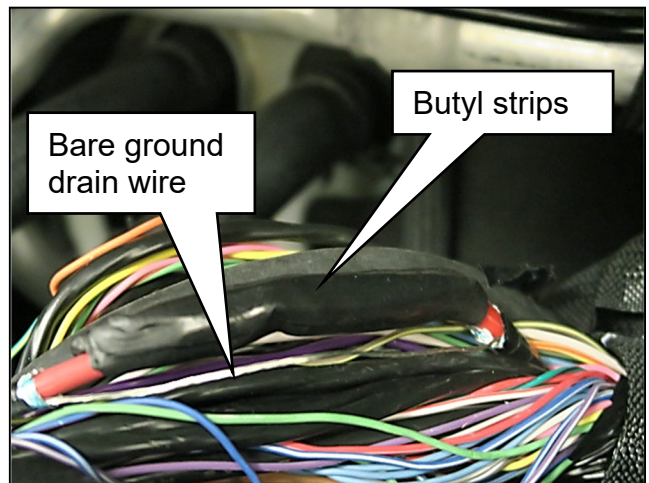

Figure 24
- f. Verify the entire splice is covered, as shown in Figure 24.